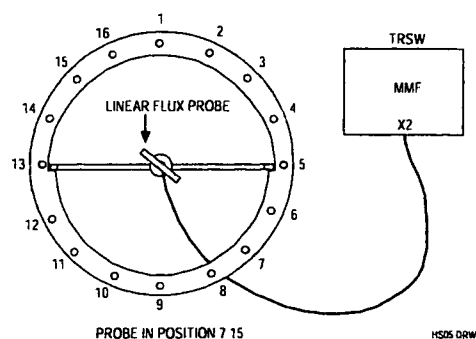

Figure 4 Frequency adjustment mode 7 - 15
13. Position the flux probe in position 7-15 (Figure 4). The cable must leave the bore via the backside of the magnet.